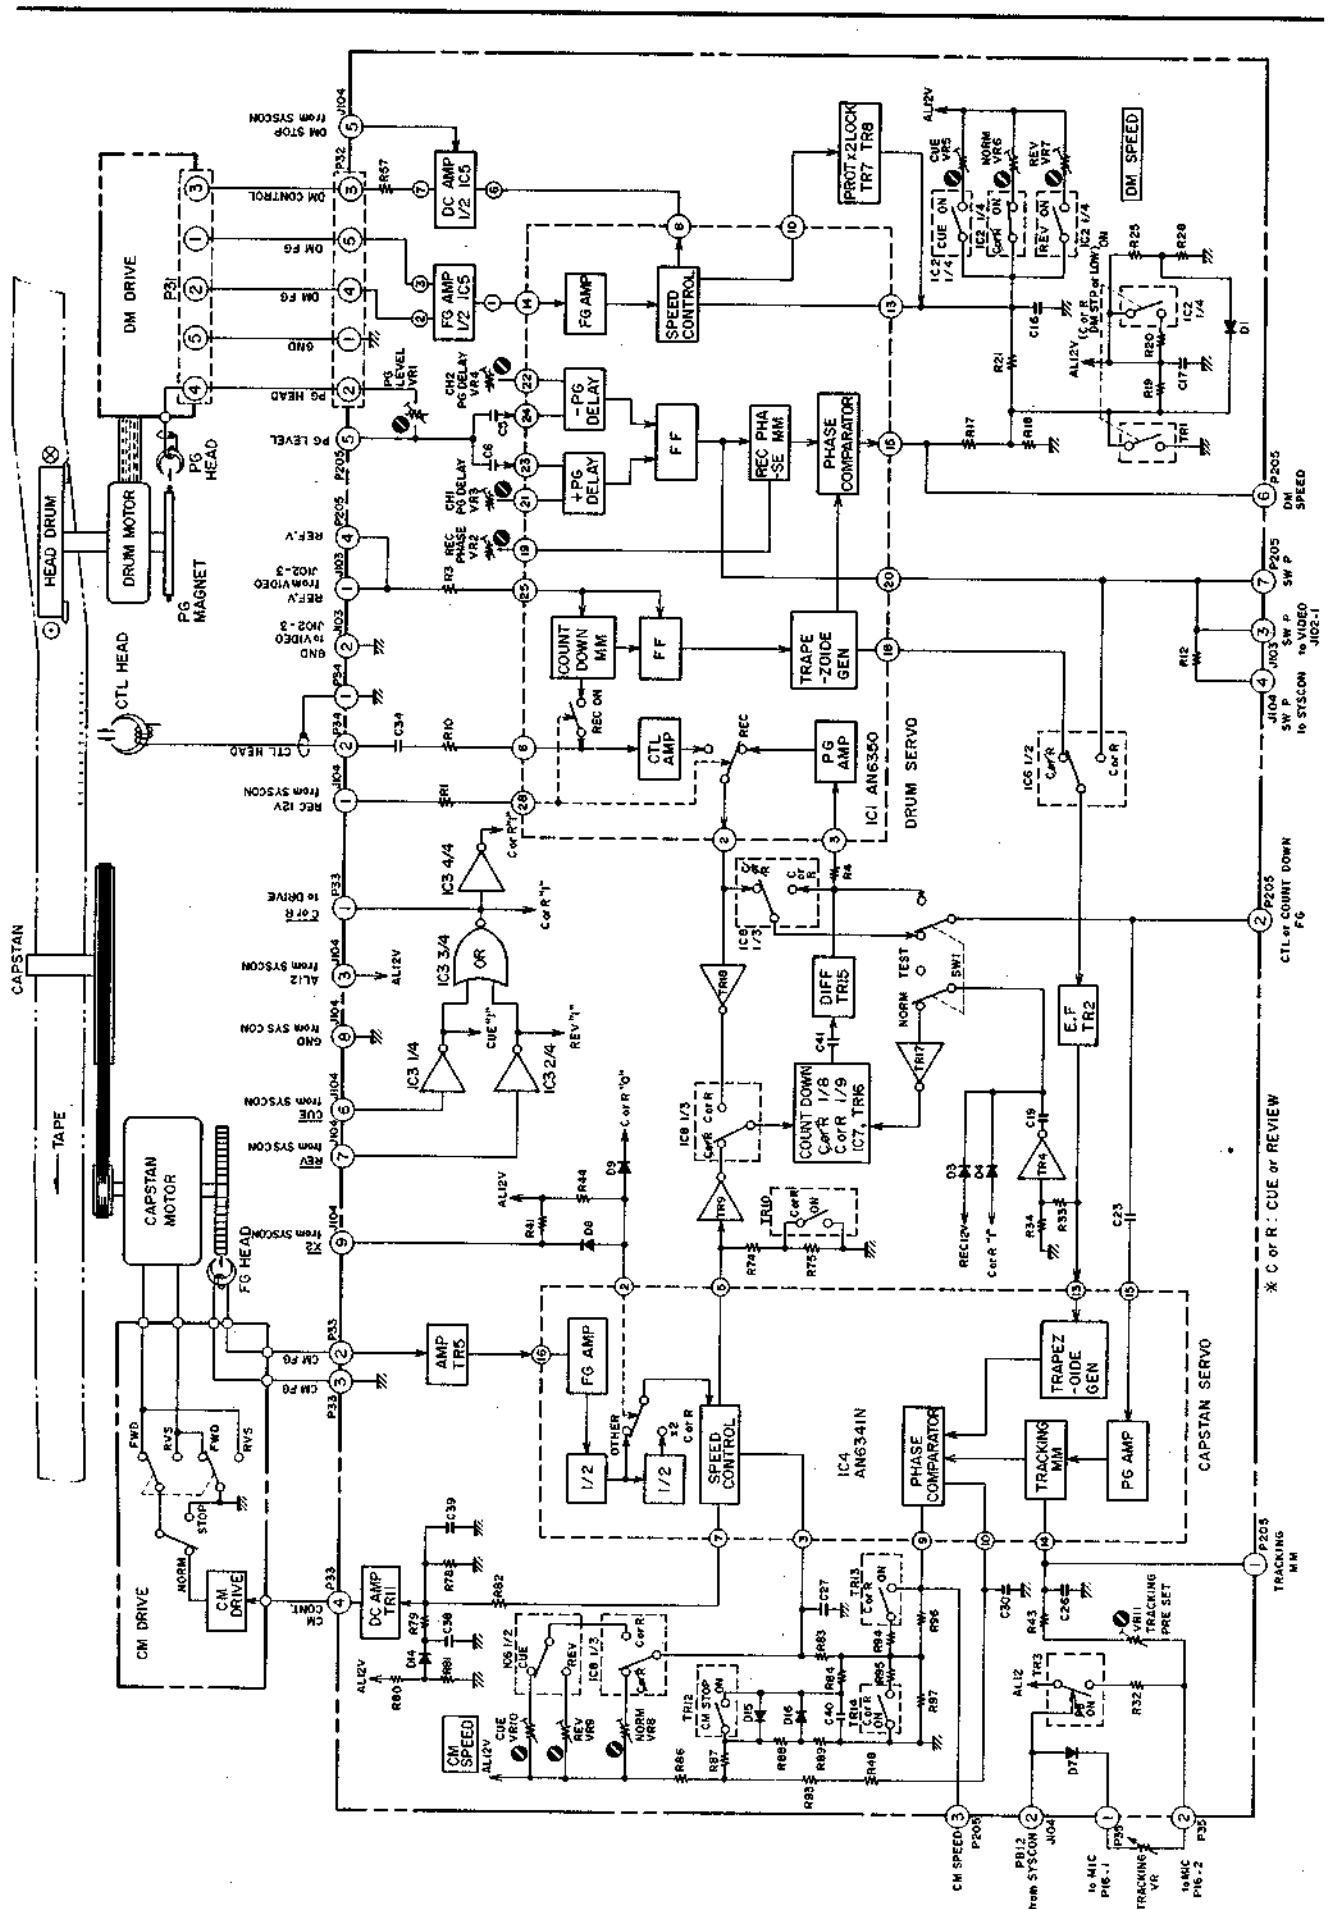
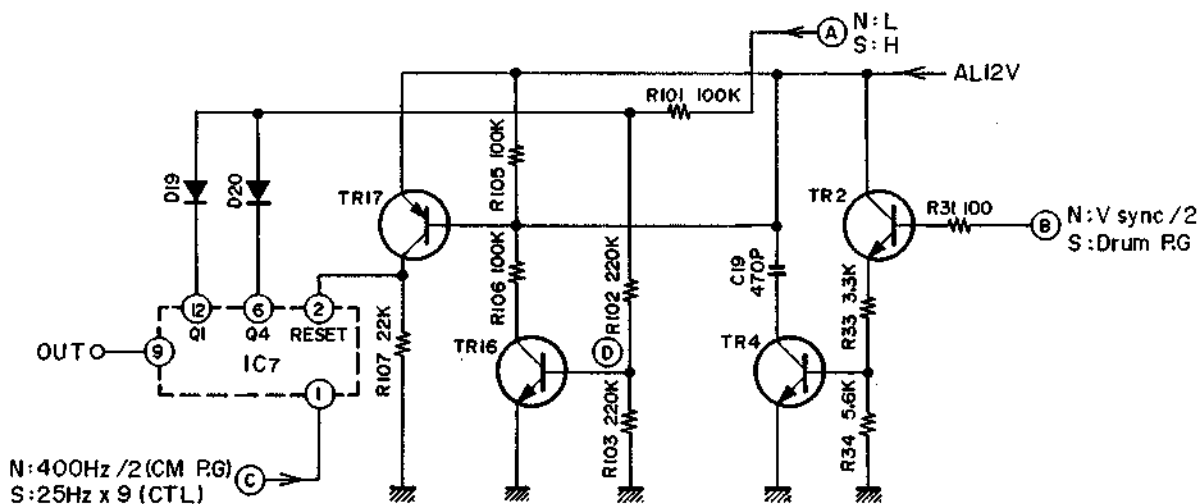

Fig. 15 SERVO BLOCK DIAGRAM
Fig. 16
In the circuit shown in Fig. 16, when NORMAL, (A) is L, so D19 and D20 are cut off and TR16 is also cut off, therefore, no reset input from TR16, but when started, 1/2V sync is inputted and TR4 is turned ON by the first pulse after AL12 is added, and immediately when C19 is charged, TR17 is turned ON and the reset pulse is added to IC7 (2).
In SPEED, in Fig. 16, (A) becomes 'H', and if there is no reset input when the 9th pulse of (IC7 (1)) shown in the lower half of the Fig. 15 is inputted, then, Q1 → 'H', Q2 → 'L', Q3 → 'L', Q4 → 'H'. When both Q1 and Q4 become 'H', the potential at (D) point becomes 'H', TR16 is turned ON, TR17 also ON, and the reset pulse is inputted into IC7 (2). Immediately when the reset pulse is inputted, Q1, Q2, Q3 and Q4 all become 'L'. With the reset point "0", the pulse is again counted. Therefore, the pulse of IC7 (9) will be one pulse output against 9 pulse input, i.e. 1/9.